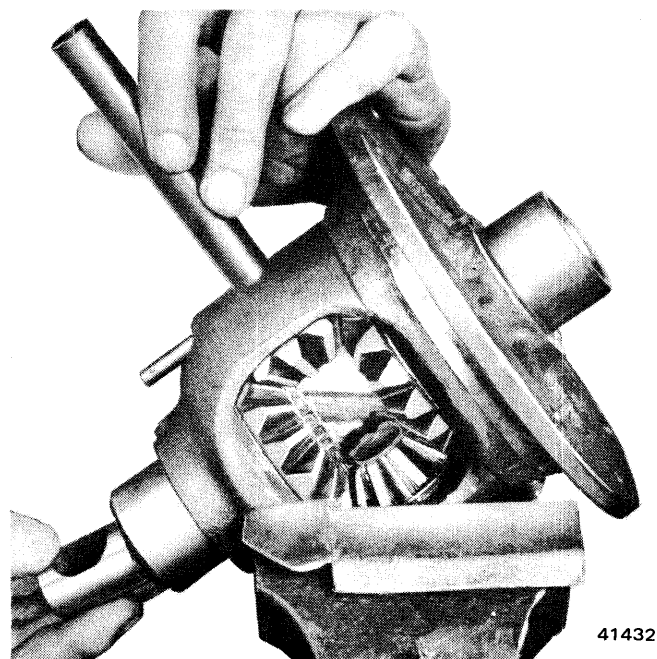

Fig. 10-33 Removing Pinion Mate Shaft and Thrust Block
(2) Remove pinion mate shaft and remove thrust block (fig. 10-33).
(3) Roll pinion gears around on side gears until they can be removed from case, then remove side gears and thrust washers.